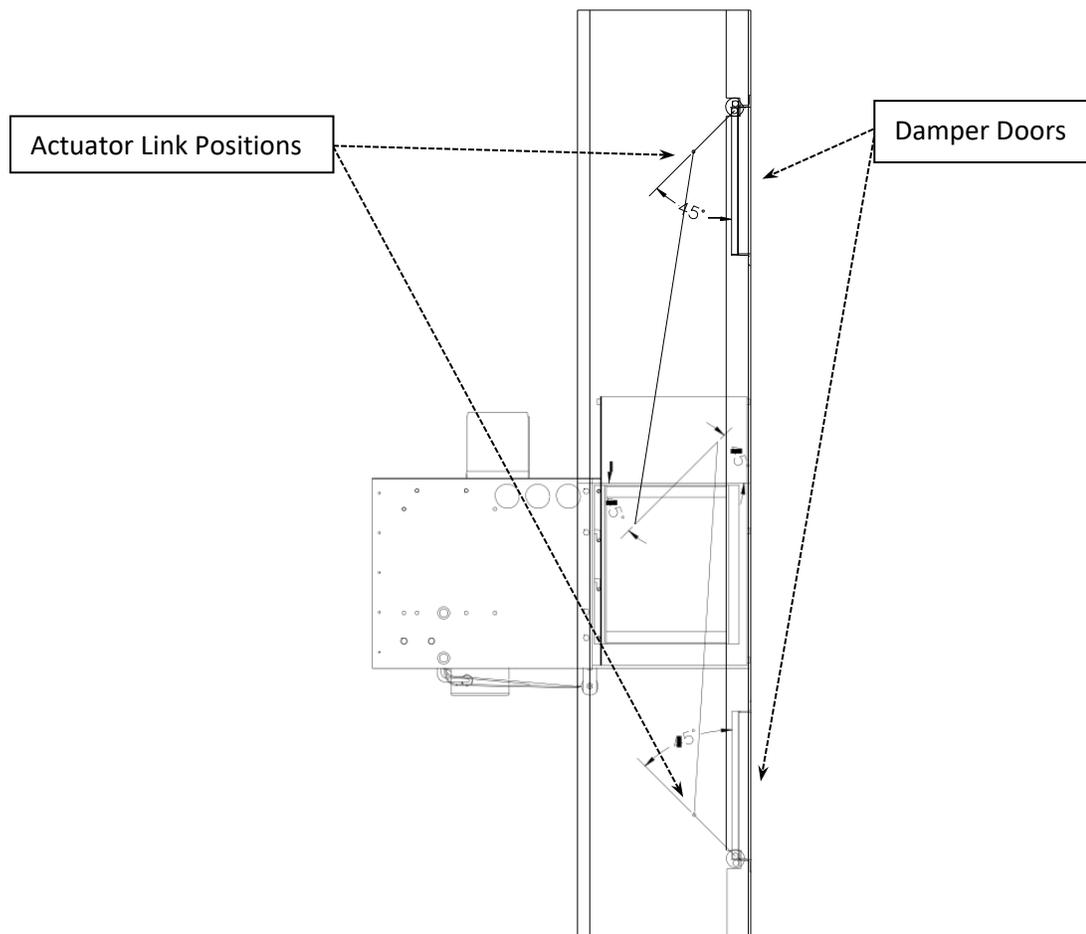

Figure 4 – Linkage adjustment; dampers shown in closed position
1. With both damper doors closed, verify the control arms on the damper and actuator shaft are at an angle of 45° from the duct walls. See Figure 4 below.